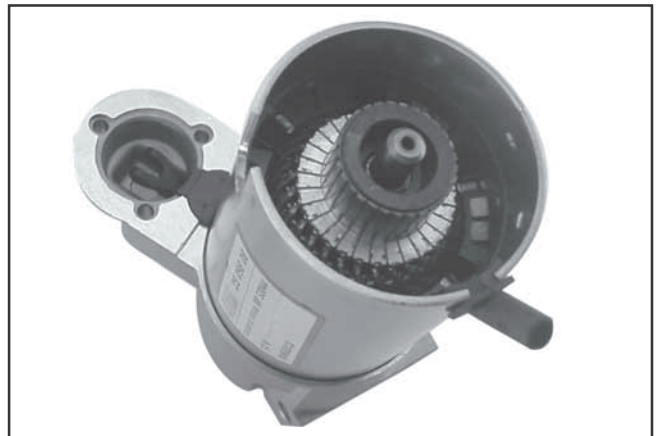

Figure 7-37. Installing Frame and Drain Tube.
8. Install the frame, with the small notch forward, onto the armature and drive end cap. Align the notch with the corresponding section in the rubber grommet. Install the drain tube in the rear cutout, if it was removed previously. See Figure 7-37.